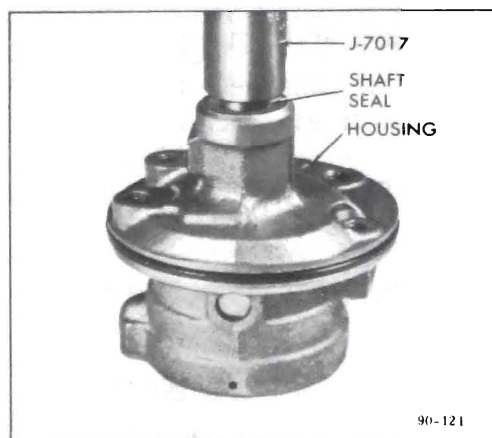

Figure 90-83 Installing Shaft Seal
2. If shaft seal was removed, use installer J-7017 to drive new seal into housing with spring side of seal toward housing. See Figure 90-83. Just bottom seal in housing.